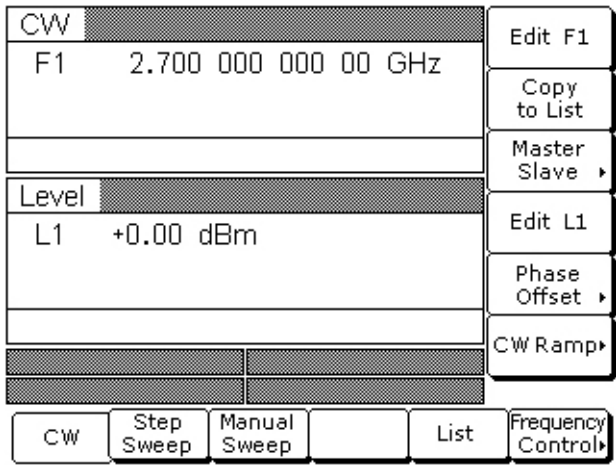

Figure 5-2. CW Menu
- a. Reset the instrument by pressing **System**, then **Reset**. Upon reset, the CW Menu is displayed (Figure 5-2).